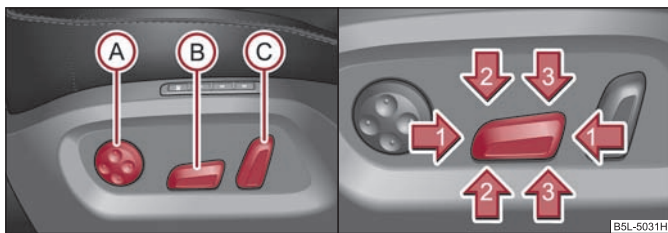

Fig. 56 Side view: Controls for adjusting the seat / seat setting switch
- Press the switch (B) ⇒ fig. 56 forwards or backwards (1) ⇒ fig. 56.
- Press the switch (B) ⇒ fig. 56 upwards or downwards.
- Press the switch (B) at the front (2) ⇒ fig. 56 or at the back (3) ⇒ fig. 56.
- Press the switch (C) ⇒ fig. 56 in the direction of the desired setting.
- Press the switch (A) ⇒ fig. 56 at the front in order to enlarge the curvature of the lumbar support.
- Press the switch (A) rear in order to reduce the curvature of the lumbar support.
- Press the switch (A) top in order to adjust the curvature of the lumbar support higher.
- Press the switch (A) bottom in order to adjust the curvature of the lumbar support lower.